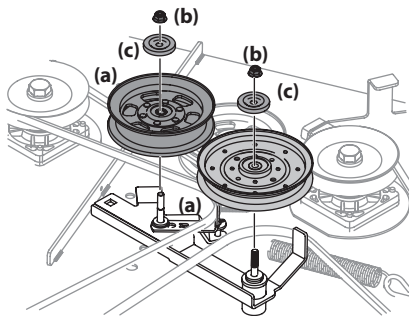

Figure 4-20
3. Remove the two idler pulleys (a) by removing the flange lock nuts (b) and pulley caps (c) that secure them to the deck and the idler arm. See Figure 4-20. Do not lose any of the hardware when removing the flange lock nuts (b).
6. Place the belt around the idler pulleys removed in Step 3 with the 'V' side facing in. Once in place, reinstall all the hardware and tighten the flange lock nut to secure the assembly. See Figure 4-20.